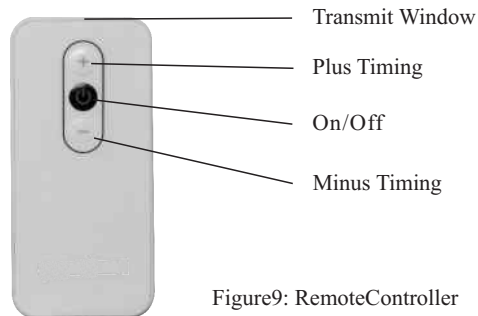

Figure9: RemoteController
- Use infrared remote controller to operate the device. (Figure 9)